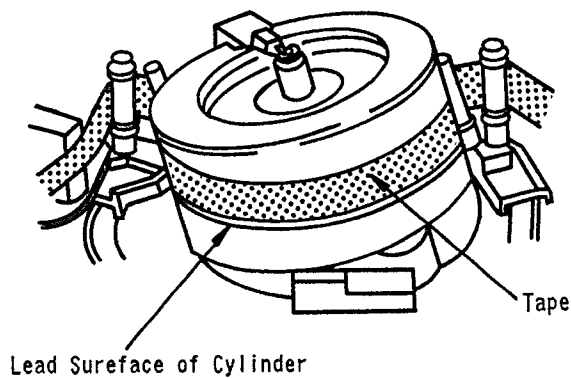

Fig. 5-2
4. Observe the tape transport at the lead surface of the cylinder during the PLAY mode, and confirm that the tape runs smoothly along the lead surface of the cylinder without slipping downward or upward. (Refer to Fig. 5-2.)